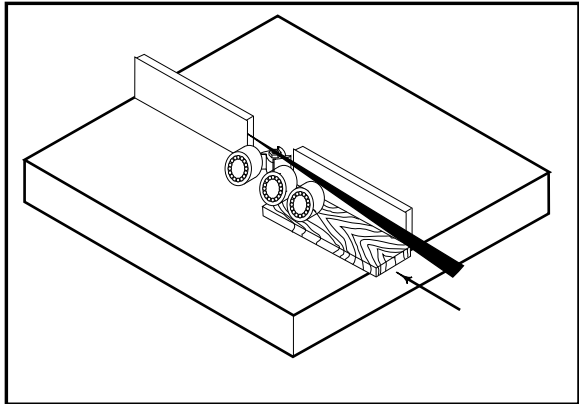

Figure 7
4. Set the wheel height between $\frac{1}{16}$ " and $\frac{1}{8}$ " below the height of the material you intend to mill. The wheels, when properly adjusted, will put consistent downward pressure on your workpiece. See Figure 7.